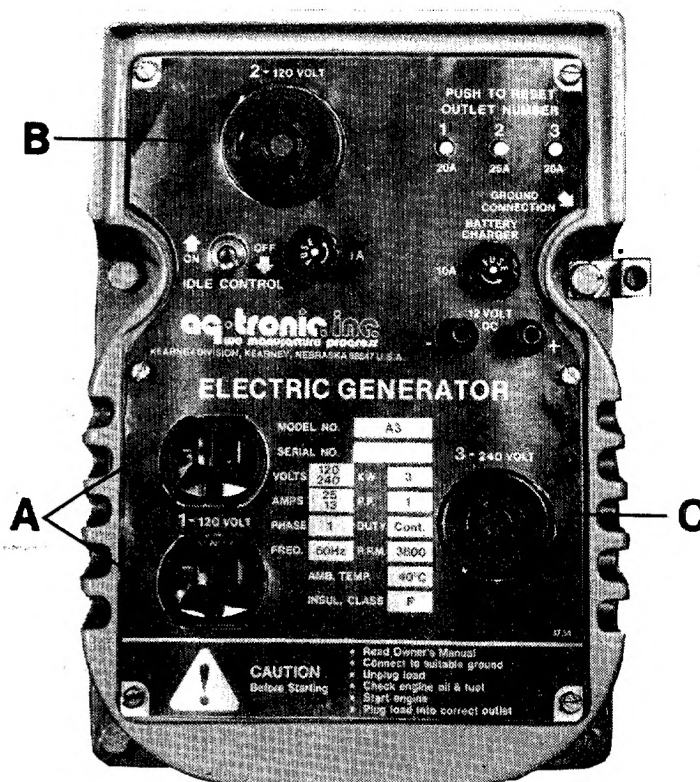
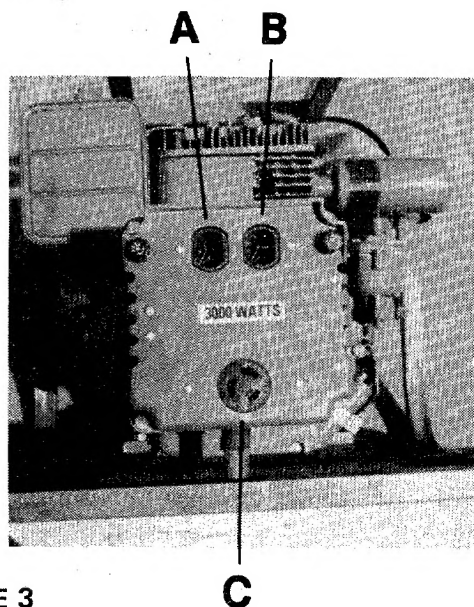

FIGURE 2
FIGURE 3
Dual Voltage Units. See Figure 2 and Figure 3. These models are equipped with two 120 volt circuits. (A and B). These two 120 volt circuits are combined to form the 240 volt circuit, (C).